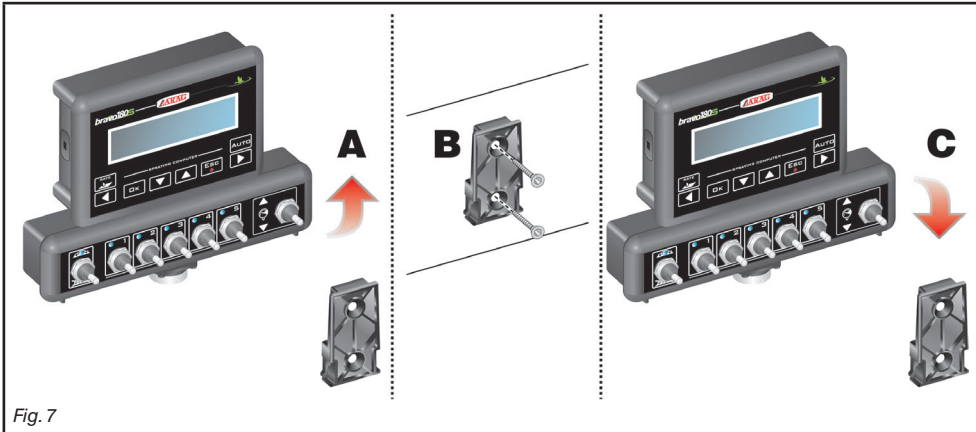

Fig. 7
The monitor must be mounted after having fixed the bracket at the desired location (the previous paragraph shows the bracket drilling template). The bracket must be slid out of the monitor seat (A, Fig. 7) and fixed using the supplied screws (B). Make sure the bracket is securely mounted, fit the monitor on it, and push it until it locks in place (C).